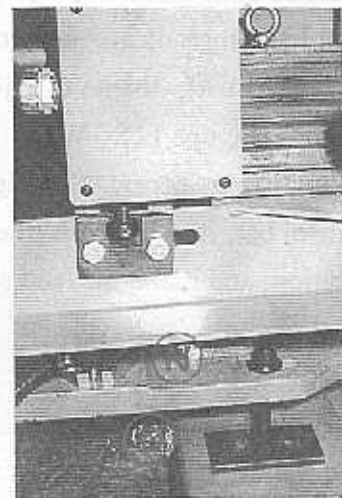
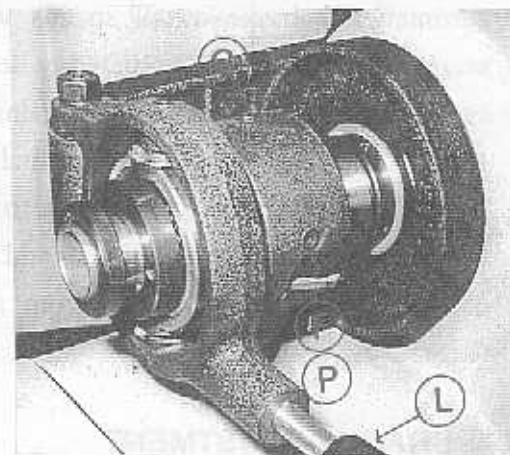
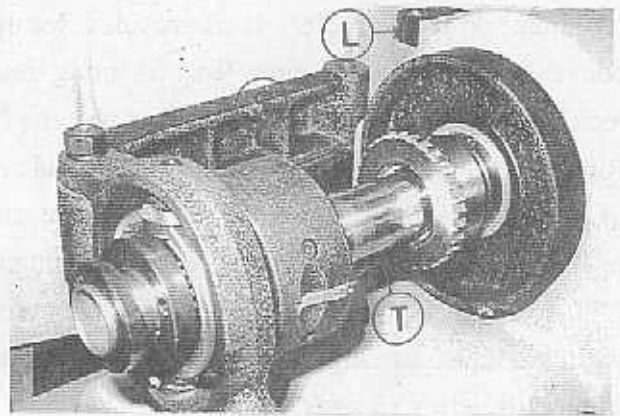
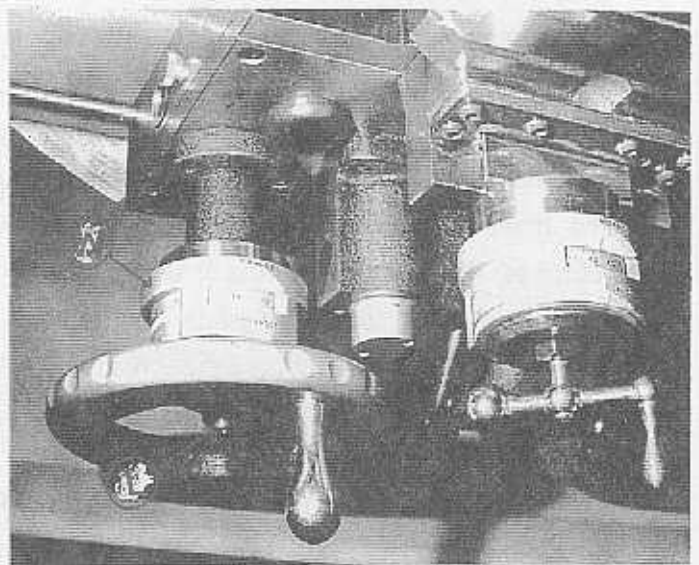

Figure 15 - Belt Adjustment
Figure 16 - Collet Closer Adjustment
Figure 17 - Collet Closer Removal
Figure 18 - Carriage Indicating
Run spindle at approximately 1000 RPM. Move lever "G" (Figure 4) to center "STOP" position and let the spindle coast to a stop. This is done to equalize belt tension. Move lever "G" (Figure 4) to the high or low position. Loosen lock nut "N" (Figure 15) 19mm wrench. Turn adjusting screw "D" (Figure 15) 6mm socket head wrench clockwise to tighten belts. Stop machine and check belt tension, there should be approx. 1" of play in belt.
Running the machine with the collet closer and not having a collet locked in place will damage the collet closer. Remove the collet closer when using chucks, face plates, or spindle nose type fixtures. The collet closer should be removed often for cleaning to prevent loading of chips between collet closer tube and inside of spindle at rear and collet threads. Removal method is: Pull out pin "L" (Figure 17). Slide draw tube out of the spindle. Do not turn the adjusting nut "N" (Figure 17). It is keyed to the spindle. To remove slide it off the end of the spindle. Do not remove collet closer by removing screw "S" (Figure 17), this screw has been adjusted at the factory for proper operation of the collet closer.
Before replacement of the closer, clean inside of the headstock spindle and outside diameter at rear of spindle where Adjusting Nut "N" (Figure 17) is located. Apply a film of light oil on rear of spindle. Do not force Adjusting Nut "N" on spindle. If Adjusting Nut "N" fits to tight, remove and check for burrs or scratches, then replace. Clean collet closer tube inside and out apply a film of light oil on slip surface "T" (Figure 17) of the collet closer tube, replace collet closer and insert Link Pin "L" (Figure 17).
1. Before using collet closer, and any collet or step chuck to be used should be thoroughly cleaned. 2. Push the lock Pin "E" (Figure 4) . To engage lock pin, turn spindle by hand till lock pin enters notch to lock. 3. Press the Closer Adjusting Finger "F" (Figure 16) down to the point "P" (Figure 16). 4. Place collet closer tube on collet or step chuck until engaged. Turn both collet closer tube and shell Guard "G" (Figure 15) forward with the left hand, and hold the collet or step chuck with the right hand at the same time. 5. Place a work piece in collet or step chuck. 6. Place lever "L" (Figure 16) to the extreme left fixed position. Turn the Shell Guard "G" (fig. 16) toward operator until the work piece is clamped by the collet. 7. Place lever "L" to the right, the released position. Turn Shell Guard "G" toward operator, move the Adjusting Finger "F" advance two notches on the adjusting nut "N" (Figure 17) and close Adjusting Finger "F". 8. Test collet closer's tension on work piece. If the work piece needs additional gripping pressure, press down on the adjusting finger "F" and turn Shell Guard "G" forward and lock. (see figure 16)
Dual dials with english and Metric Handwheel dial "W" (Fig. 18) graduations are in 0.01" 0.2mm. It is built for the operator's convenience of operation. (Fig. 16) Spring loaded indicating ring, just turn to required location by loosening lock screw "L" (Fig. 18) Sliding cover cage exposes only the dial in use.